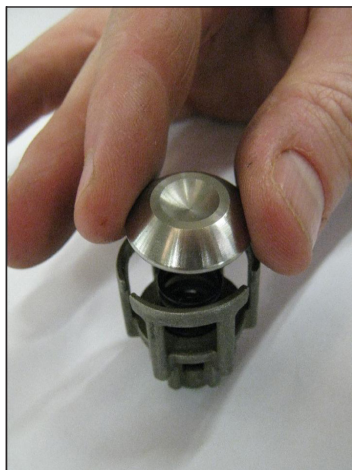
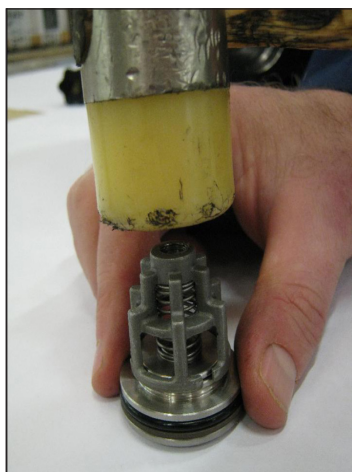

Fig. 33
Fig. 34
- 1 **When assembling the suction and outlet valve units (Fig. 33, Fig. 34). Take special care not to invert the suction springs with the previously disassembled outlet springs:**